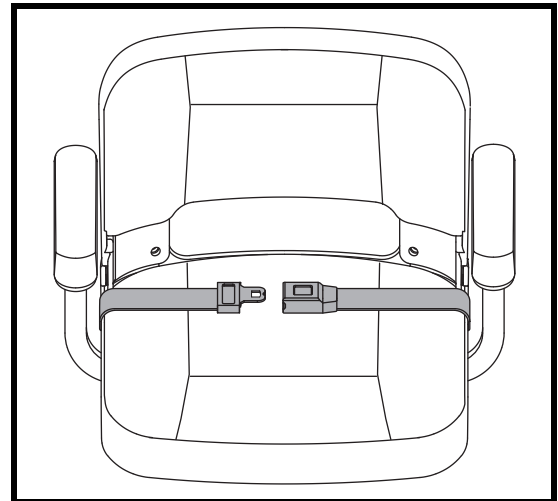

Figure 22. Positioning Belt - Metal Tab Style
Your scooter seat may be equipped with an auto-type positioning belt that can be adjusted for operator comfort. See **figure 22 or 23**. The positioning belt is designed to help support the operator so that he or she does not slide down or forward in the seat. The positioning belt is not designed for use as a restraining device.
1. Insert the metal tab on the right side of the belt into the plastic housing on the opposite strap until you hear a “click.” See figure 22.